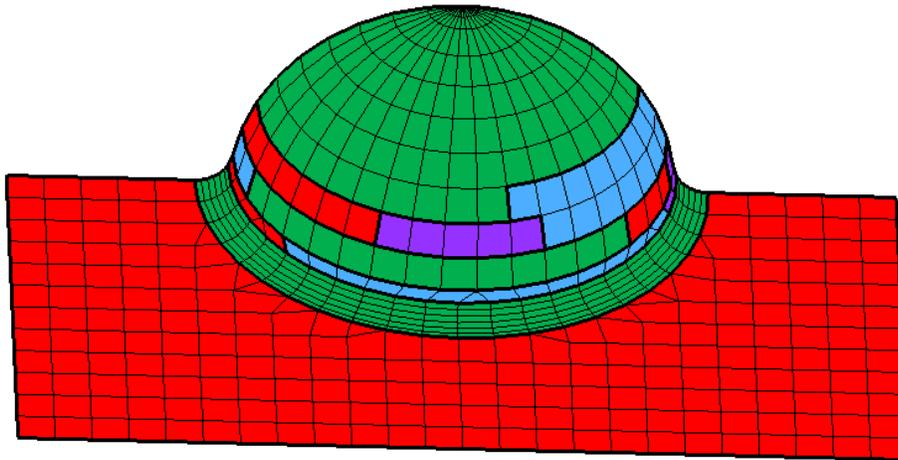

Figure 5.2.17 Segment Mesh
3. User can click GROUP TOP SURFACE to group all top surfaces as illustrated in Figure 5.2.13. The grouped surfaces are highlighted, while the SELECT OPTION dialog box as illustrated in Figure 5.2.17, is displayed.
This function is used to control the size of mesh segment which determines the size of the generated surface. The default normal angle is 3 degrees. This normal angle is used to calculate the feature lines in the mesh. The user can enter a different angle value and then click Segment Mesh to segment mesh into regions, as shown in Figure 5.2.17. The program will generate a surface for each region.